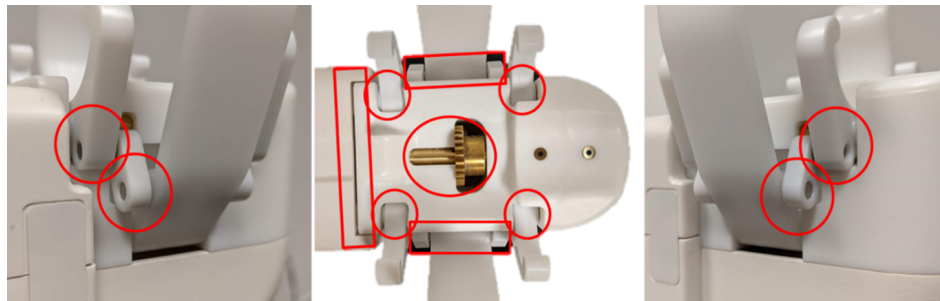

Figure 58: Areas to inspect on Positioning System
3. Repeat steps 1 and 2 as necessary until no visible soiling remains, closely inspecting the areas around the gripper arms and gear (*Figure 58*).